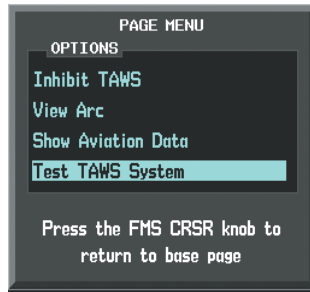

Figure 6-123 TAWS-B Page Menu
- 3) Select 'Test TAWS System' and press the **ENT** Key to confirm the selection. (Figure 6-123)